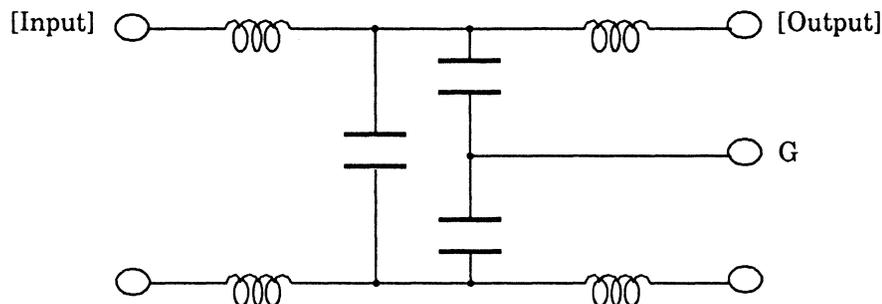

Figure 4.11 AC noise filter (recommended)
- Circuit construction: T-configuration as shown in Figure 4.11 is recommended.